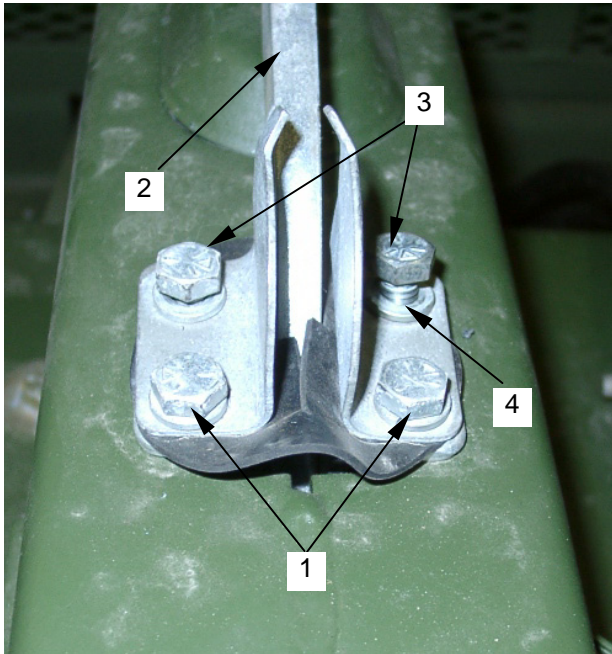
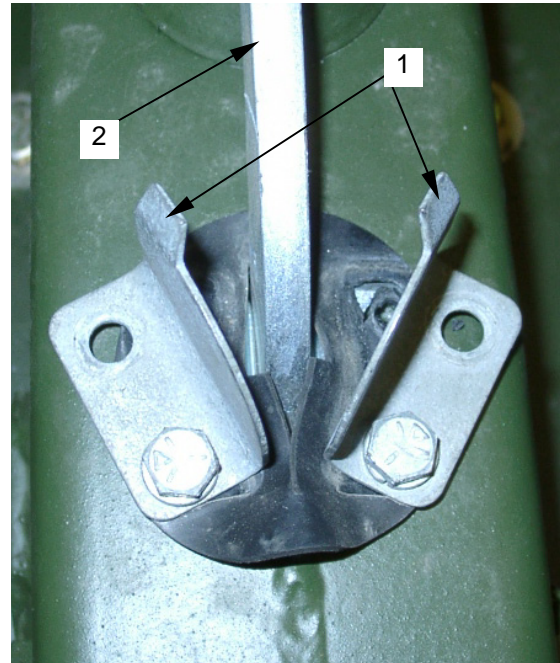
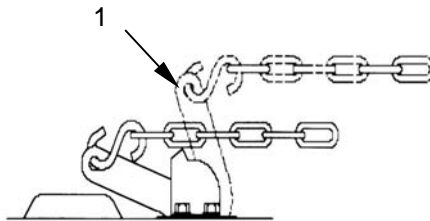

Figure 1. Breakaway Lever Mounting Bolts
Figure 2. Breakaway Locks
Figure 3. Breakaway Lever Position
1. Loosen but do not remove the bolts (**figure 1, item 1**) located on each side of the breakaway lever (**figure 1, item 2**).
2. Remove the bolts (**figure 1, item 1**) and lockwashers (**figure 1, item 4**) located towards the rear of the trailer.
3. Move the two breakaway locks (**figure 2, item 1**) out of the way and reposition the breakaway lever (**figure 2, item 2**) to the ready position (**figure 3, item 1**).
4. Place the breakaway locks (**figure 2, item 1**) into their original position, and reinstall the two rear bolts (**figure 1, item 3**) and lockwashers (**figure 1, item 4**) located on each side of the breakaway lever (**figure 1, item 2**).
5. Reinstall the two remaining front bolts (**figure 1, item 1**).